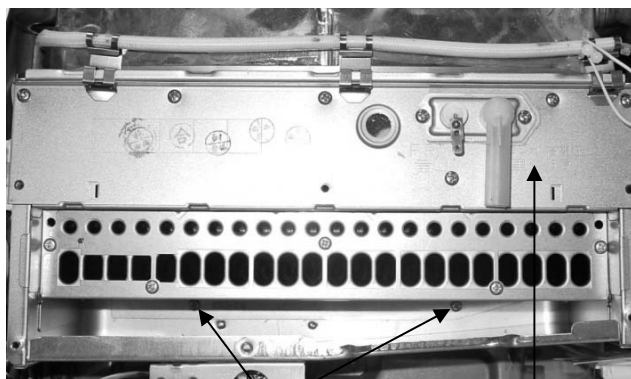

Figure 3 Screws attaching burner Burner cover plate
23. Insert the burner and place the burner cover plate into position. Attach the burner cover plate first with screws (5 for the V53e and R/C42; 6 for the R/C53 and R63LSe) and then attach the burner with 2 screws. (Figure 3)